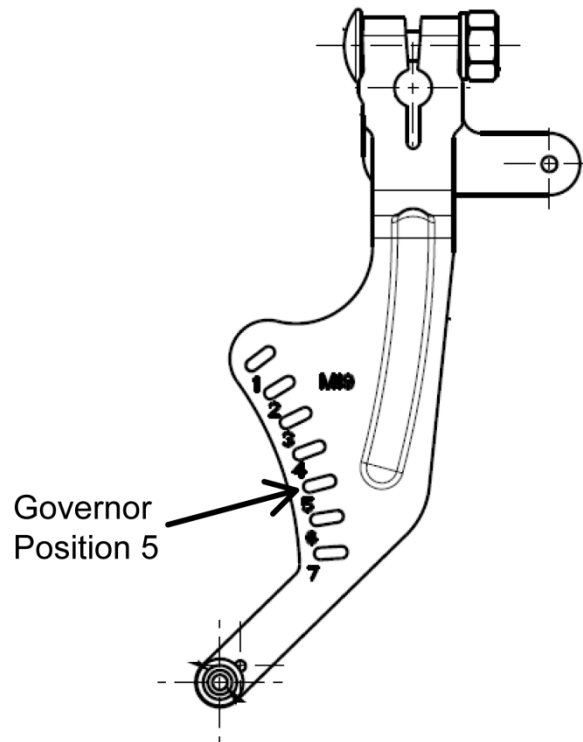

Figure B-1: Engine, Governor, B&S Model 19
The governor spring shall be engaged with, and only with, hole five (5) per Figure B-1.